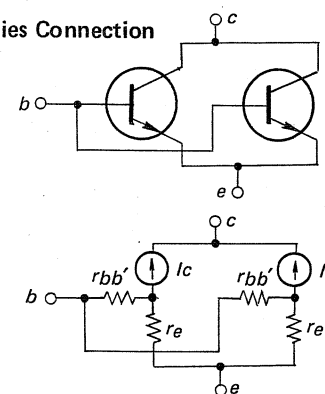

Fig. 10
In Fig. 10, two transistors are shown as connected in series. The $r_{bb'} + r_e$ factor in the equivalent circuit will become $\frac{1}{2}$, so $(r_{bb'} + \frac{r_e}{2})$ will also become $\frac{1}{2}$. Consequently, according to formula (2), noise will become $1/\sqrt{2}$, that is, a reduction of 3 dB. If n transistors are connected in series, noise will be reduced by $1/\sqrt{n}$.